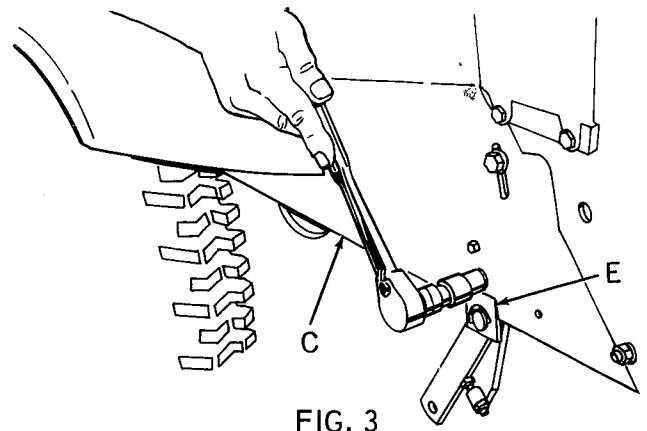

FIG. 3
4. Refer to Fig. 3. Assemble lifter bracket (E) to R.H. side of tractor frame (C) as shown. Secure lifter bracket to tractor frame with 1-3/8 x 1 hex bolt, (head to outside) lockwasher, and hex nut provided. Leave bolt loose.